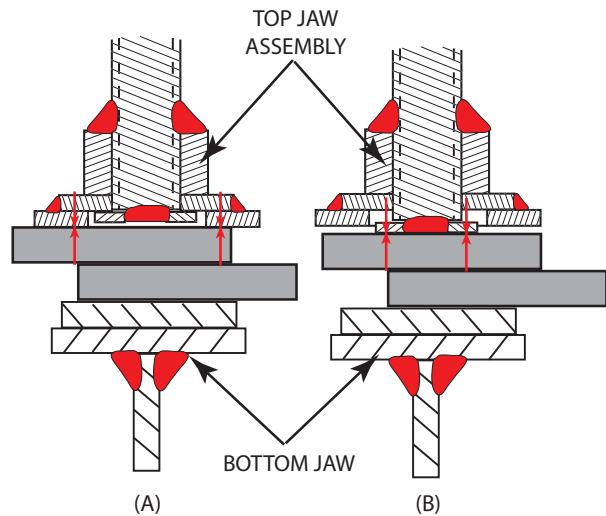

FIGURE 9-73 C-clamp screw assembly.
- Screw the nut back down to the end so that the washer assembly is close but not tight to the 3/8-in. washer. The washer assembly needs to be loose enough to turn but not so loose that the 3/8-in. washer will extend past the washer assembly as the C-clamp is tightened, Figure 9-73.